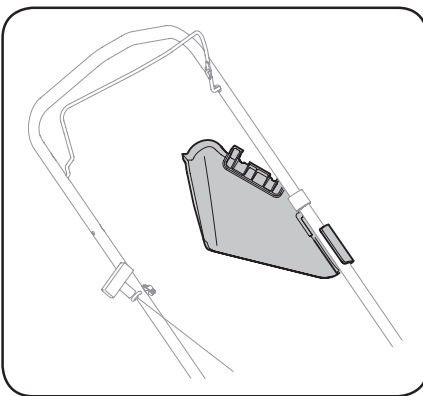

Figure 4-4
- Secure side discharge chute to handle (if applicable) as shown in Figure 4-4.